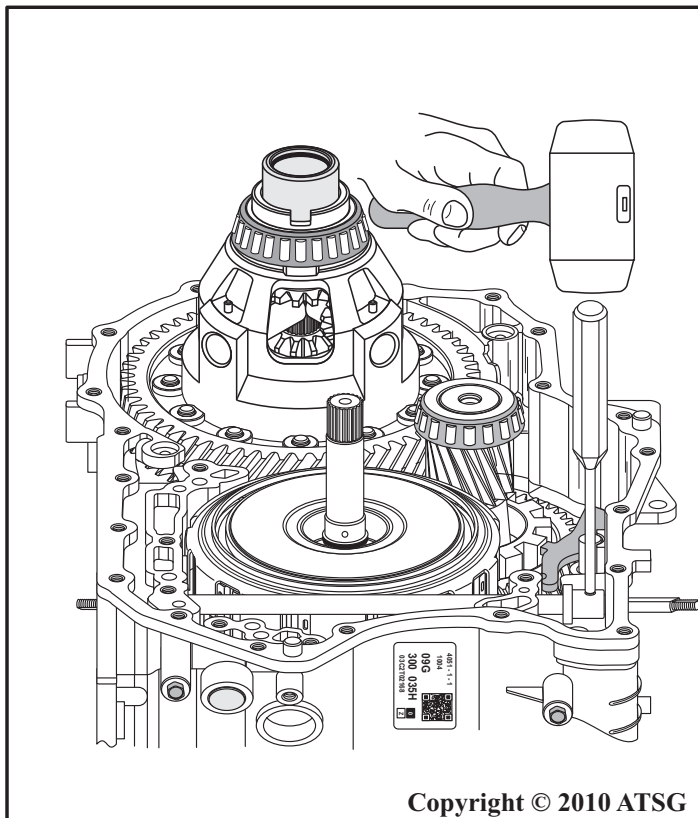

Figure 69
0. Remove the "rolled" pin from the inside detent lever using a 3/16" punch and hammer, as shown in Figure 69.